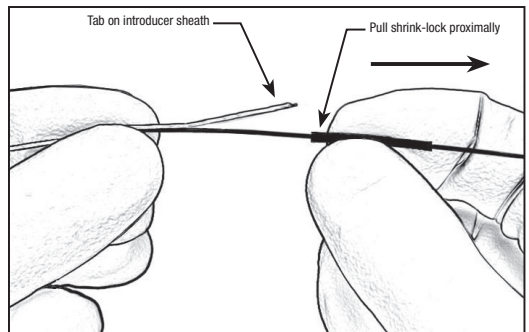

Figure 3 – Pull Shrink Lock Proximally
16. Hold the device just distal to the shrink-lock and pull the shrink-lock proximally to expose the tab on introducer sheath. See Figure 3.